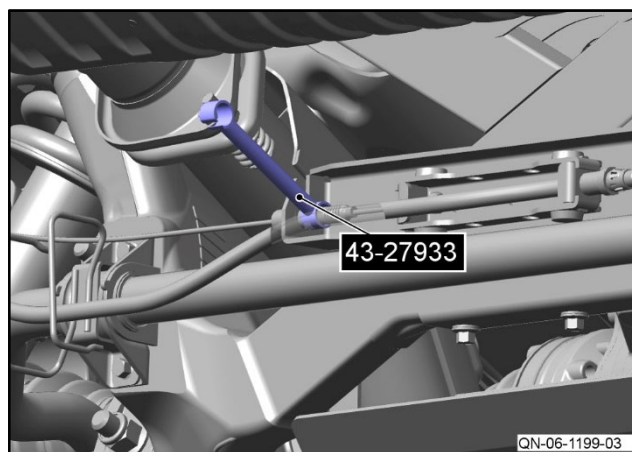

Figure 6
7. Use the special tool to compress the ring clip on the park brake cable (refer to Figure 6).